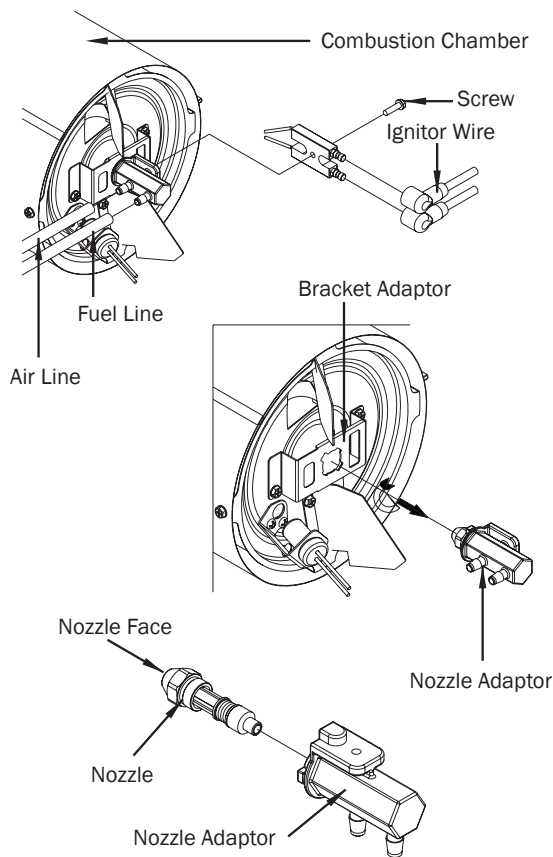

Figure 16 – Nozzle Replacement For Models CP050EK-CP175FK
- Turn nozzle adaptor 1/9 turn (40°) to counter clockwise and pull toward motor to remove. (See Figure 16)